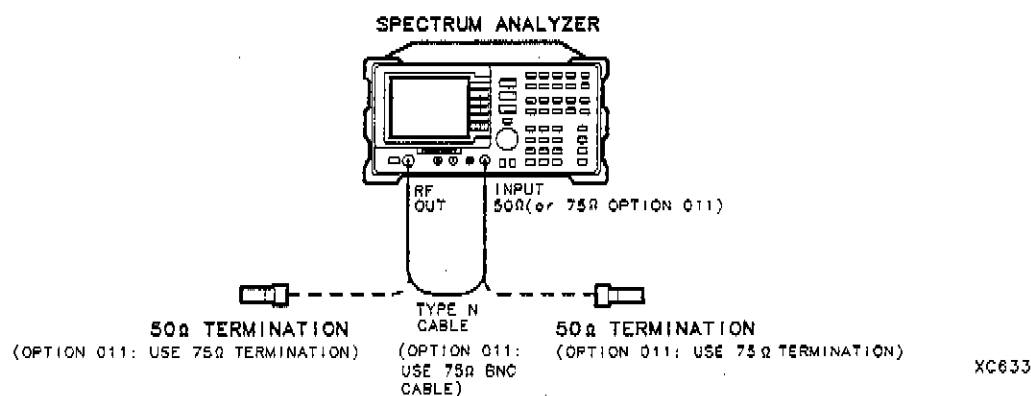

Figure 1-34. Tracking Generator Feedthrough Test Setup
1. Connect the Type N cable between the RF OUT 50 Ω and INPUT 50 Ω connectors on the spectrum analyzer. See Figure 1-34.